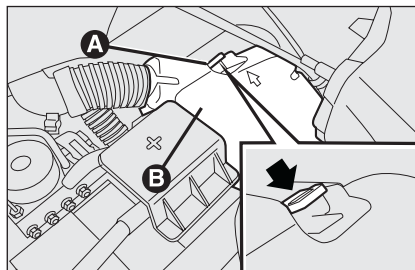

fig. 48
- ☐ use the fin **A**-fig. 48 to remove the fuse box protection lid **B**;